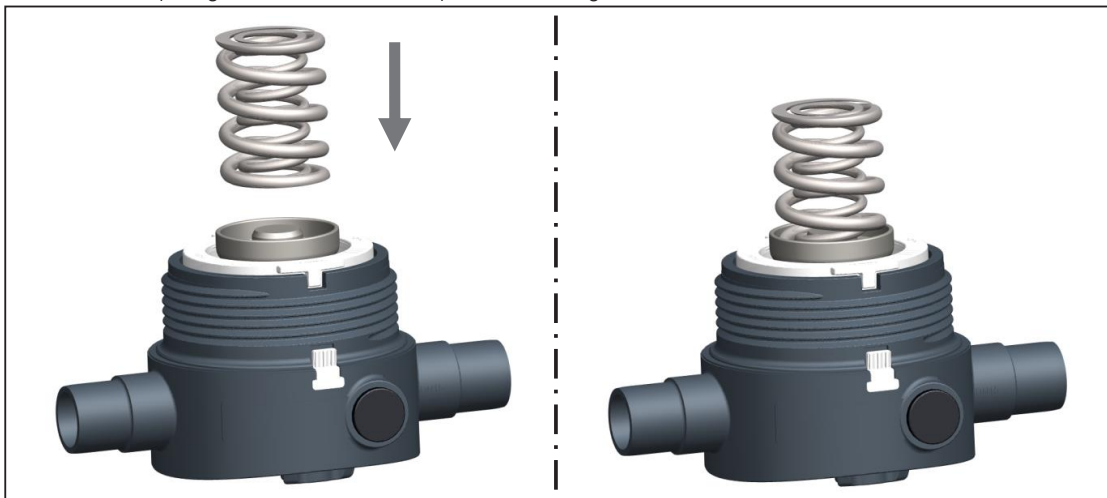

Fig. 15
- ▶ Put the springs on the Pressure piece, see Fig 15